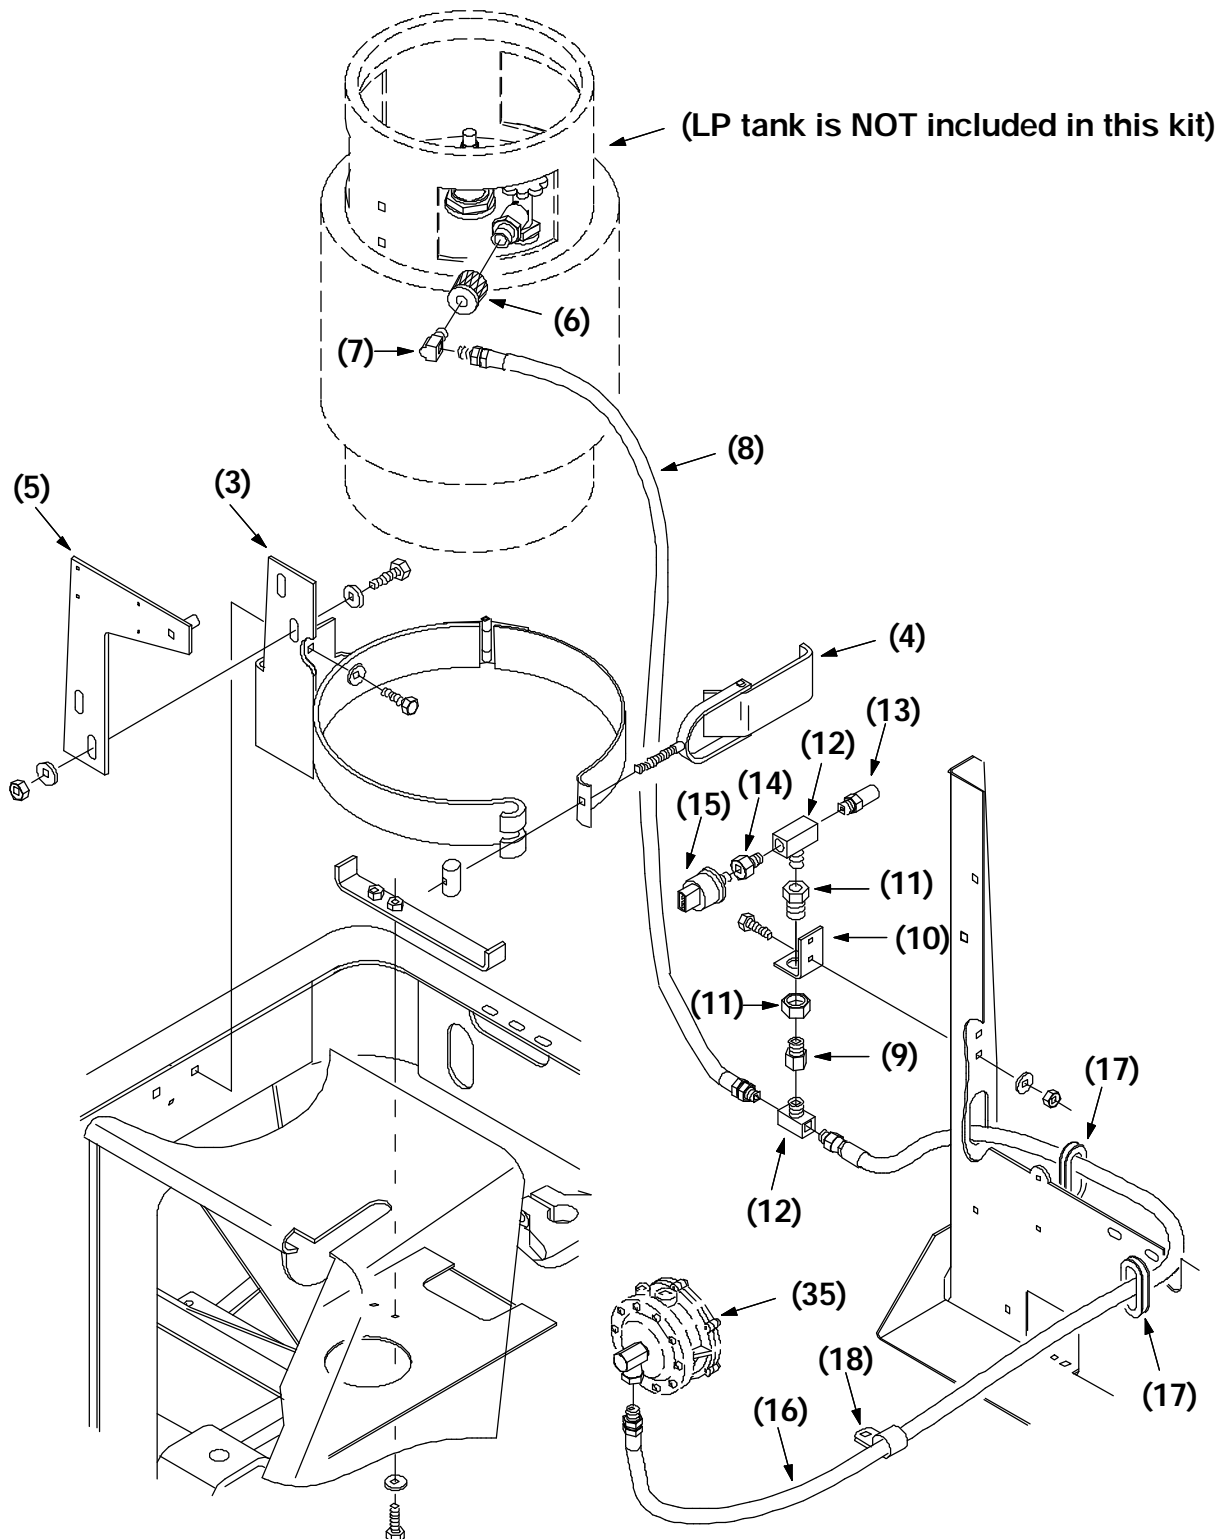

FIG. 3 - LP Fuel System Assembly
(Refer to FIG. 3 and 4)
1. Refer to FIG. 3 and 4 for reference when installing the LP conversion kit.
3. Install the tank weldment bracket (3), latch assembly (4), and plate mount weldment (5) in the machine. (Refer to FIG. 3)
4. Install the relief valve mount bracket (10) on the radiator support. (Refer to FIG. 3)
5. Install the fittings (11) and (9) in the mount bracket (10). (Refer to FIG. 3)
6. Install the two tee fittings (12) in the straight fittings.(11 and (9). (Refer to FIG. 3)
7. Install the pressure relief valve (13), straight fitting (14), and pressure switch (15) in the tee fitting (12). (Refer to FIG. 3)
8. Install the 24" LP hose (8) in the lower tee fitting (12). (Refer to FIG. 3)
9. Install the elbow fitting (7) and quick disconnect fitting (6) on the other end of the 24" LP hose (8). (Refer to FIG. 3)
10. Install one end of the LP hose (16) in the other side of the tee fitting (12). Route the LP hose (16) through the two grommets that were used for the gas fuel line. (Refer to FIG. 3)
11. Use the clamp (18) to attach the LP hose (16) out of the way of any moving components. (Refer to FIG. 3)
22. Install a full LP tank (not included in this kit) in the machine. (Refer to FIG. 3)
23. Connect the quick disconnect fitting (6) to the full LP tank and open the tank valve. Check for any leaks at the fittings and hose connections. Start the machine and check for proper operation. (Refer to FIG. 3)